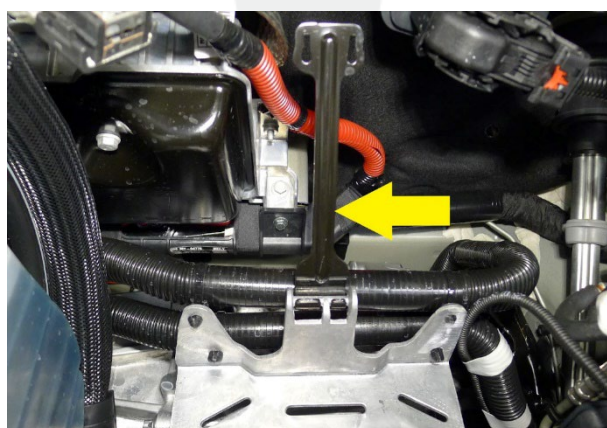

Figure 48
42. Install the rear battery tie down strap, and then rotate the strap rearward to secure (Figure 48).